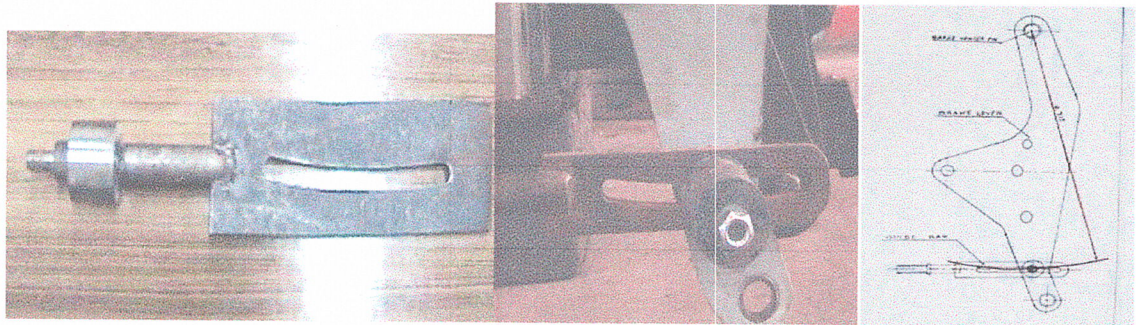

FIG 2: BRAKE EQUIPMENT WITH CURVED SLIT
- 3.5 Ensure that the slit in the brake equipment should be in arc of 717 mm radius as given below in fig 2.